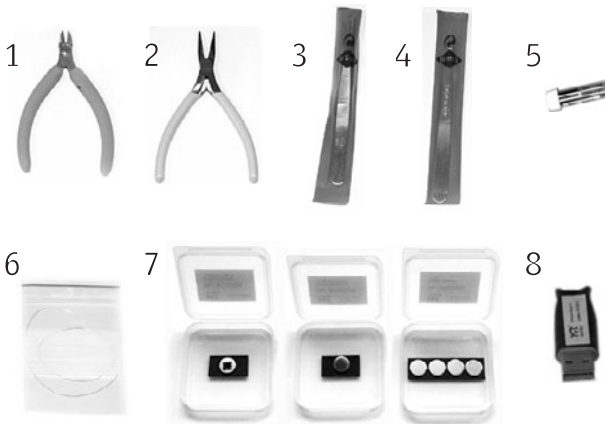
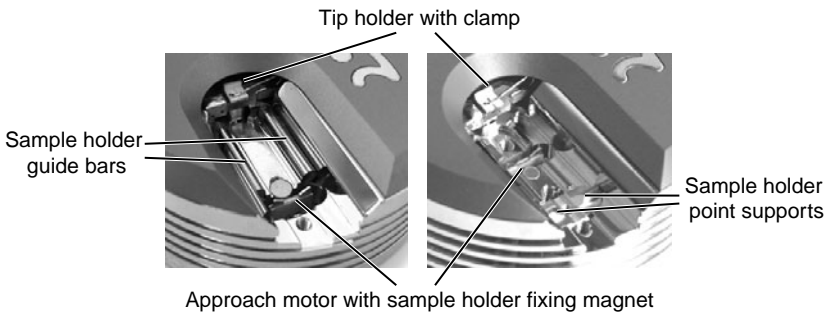

Figure 1-2: Contents of the Tool set
Figure 1-3: Parts of the Scan Head. (left) Type one Scan Head, (right) Type two Scan Head.
Two types of Easyscan 2 STM scan heads with different approach stages exist. In type one stages, the Sample Holder slides on guide bars. In type two stages, the Sample Holder slides on a point support (see *Figure 1-3: Parts of the Scan Head*).
- Never let your fingers touch either the wire for tips (*Figure 1-2: Contents of the Tool set* (page 16), item 6), the sample (*Figure 1-2: Contents of the Tool set* (page 16), item 7) nor the parts of the STM scan head indicated in *Figure 1-3: Parts of the Scan Head* (page 17).
- Only touch the Sample Holder (*Figure 1-2: Contents of the Tool set* (page 16), item 5) at the black plastic end.